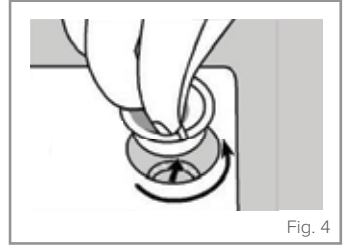

Fig. 4
1. Open the rinse aid compartment by turning and removing the cap as shown in Fig. 4.